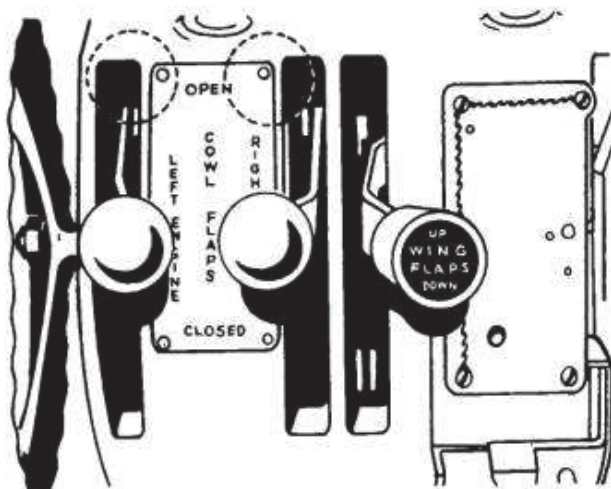

Figure 49 — Cowl Flaps Control Levers
(27) Cowl flap "OPEN," levers "NEUTRAL." Cowl flaps must be fully open during all ground operation. (See figure 49.)